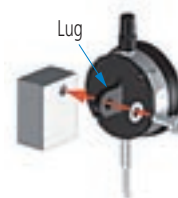

Fig. 4
3. Clamp the lug so that the spindle is square to the measuring face. (**Fig. 4**)